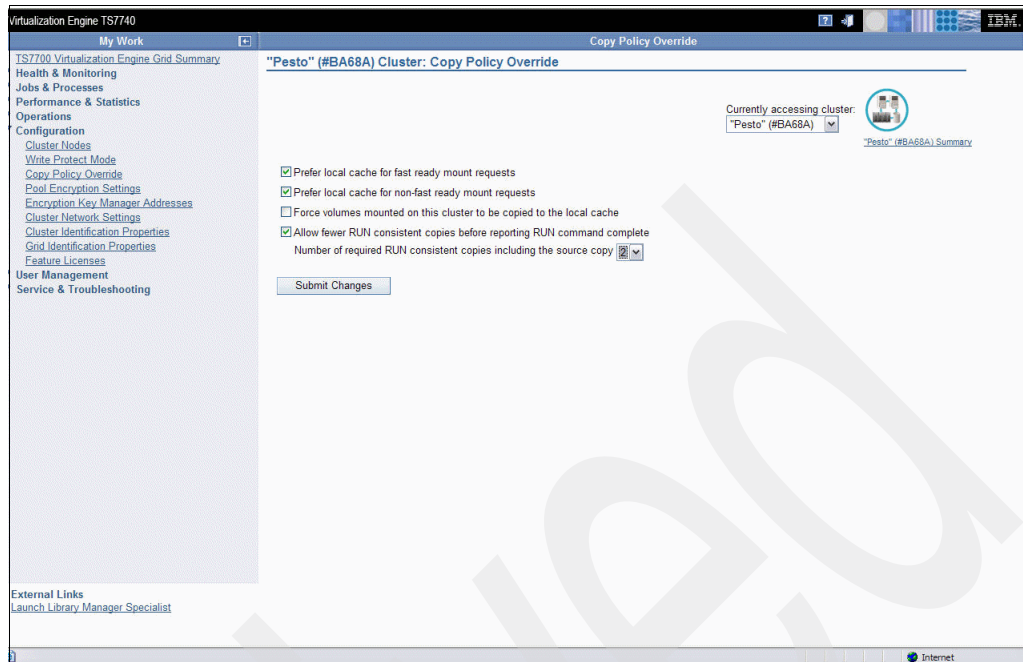

Figure 9-1 Logical Volume Copy Consistency Override
- With the introduction of the Three-Cluster Grid, a Logical Volume Copy Consistency Override has been enabled. By settings on each library it overrides existing RUN consistency points. Figure 9-1 shows an example of the setting from the Management Interface (MI) where a third copy will be forced to Deferred Copy, but only if three copies are requested from the MC definitions on all three clusters.